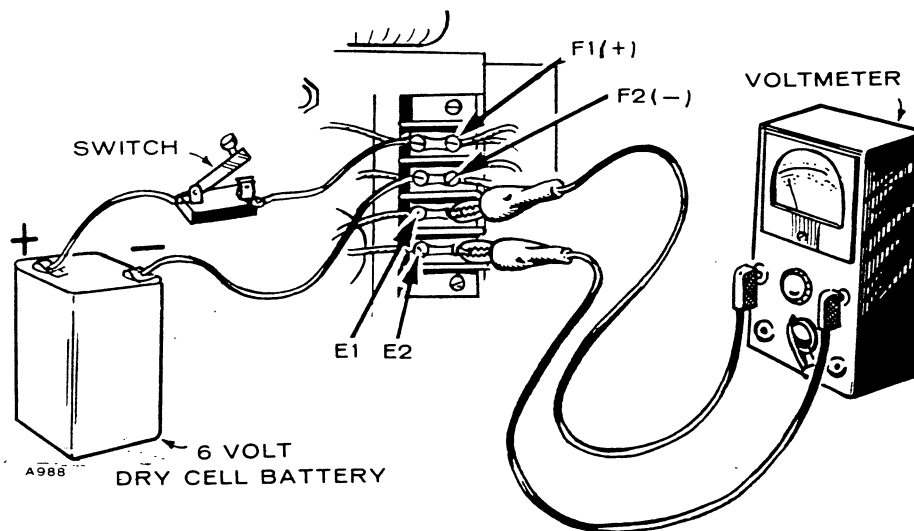

FIGURE 13. FLASHING THE FIELD
1. Using a 6 volt dry cell battery, connect leads as shown in Figure 13 (positive to F1 and negative to F2).